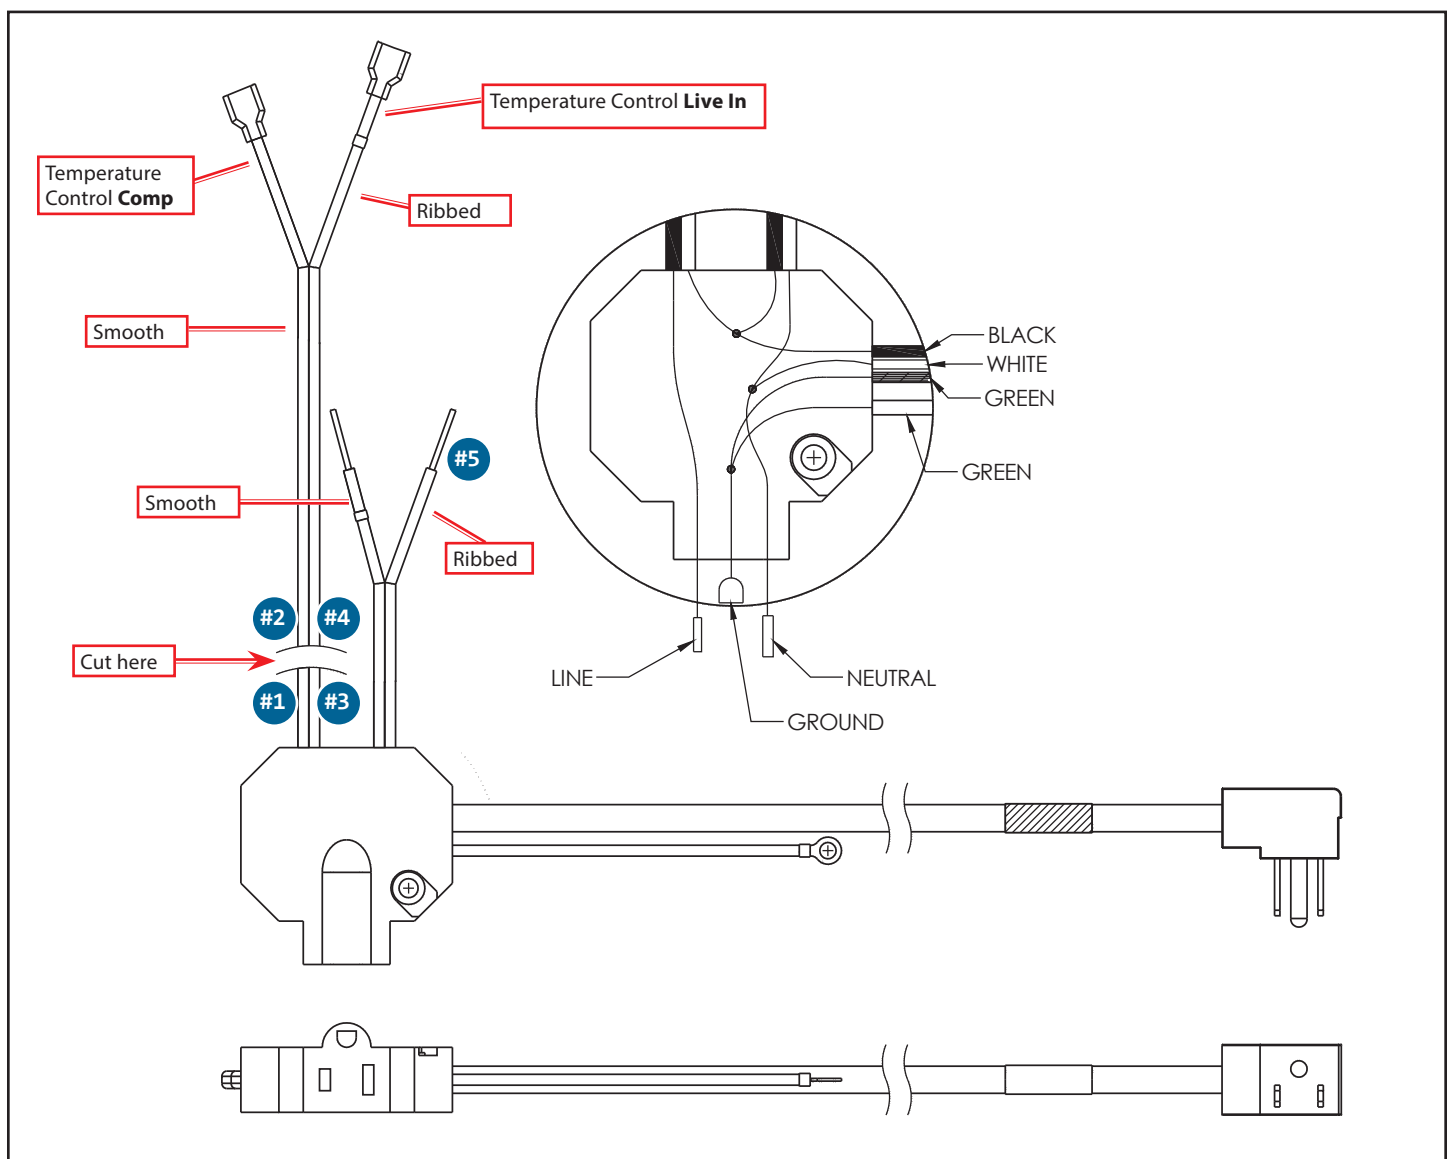

Fig. 4. Black 4-wire terminal block diagram.
2. Cut the terminal block wires going to the temperature control. See fig. 4, "Cut here".
3. With the provided lever connectors, connect the relay wires to the terminal block wires as follows (see fig. 4):